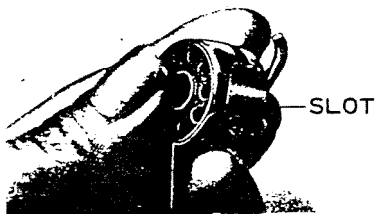
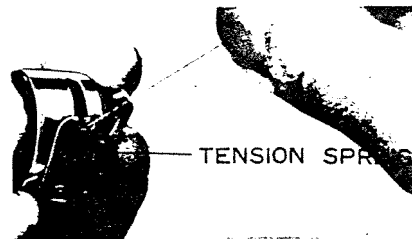

Fig. 6
Fig. 7
- Step 3 : Insert bobbin into the bobbin case. Pull thread into slot in edge of case (Fig. 6) and draw it under the tension spring (Fig. 7).